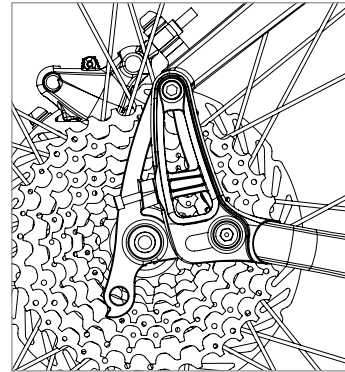

Figure 10
- Push the swing plates all the way forward (FIG 10)